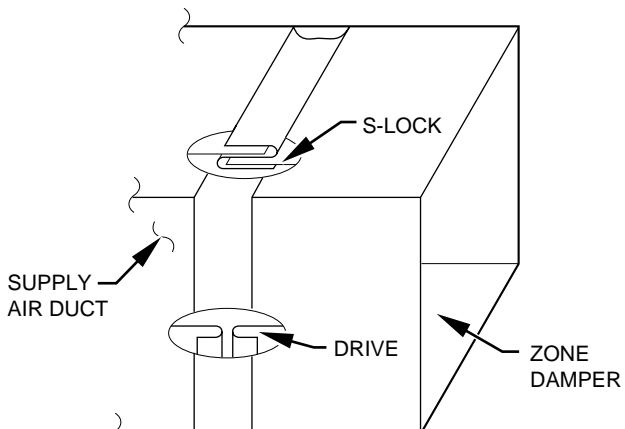

Fig. 3 — Rectangular Metal Duct Work
1. Make connections using S-lock and drives (See Fig. 3).